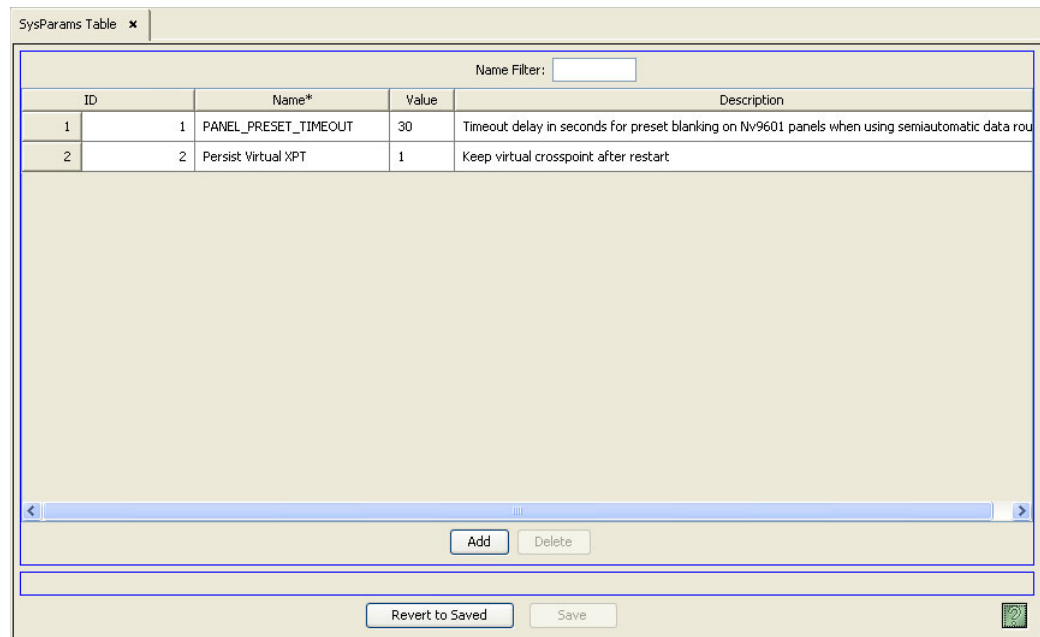

Figure 5-10. SysParams Table
- 2 From the Navigation area, select the 'Views' pane, then 'SysParams'. The 'SysParams' table displays, as shown in Figure 5-10.